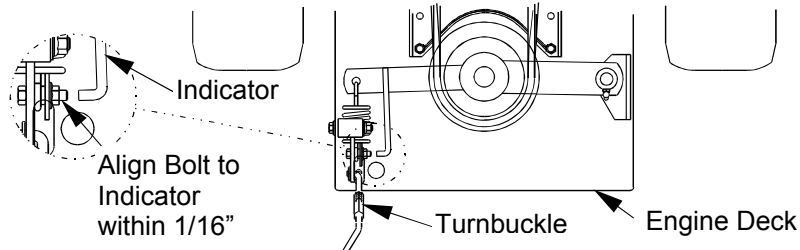

FIGURE 14
- b) With PTO engaged, adjust the linkage length by loosening the locknut on the turnbuckle and adjusting the turnbuckle so that the bolt on the bellcrank and the indicator arm align with each other within 1/16" (.16 cm). See Figure 14. Tighten locknut against turnbuckle.